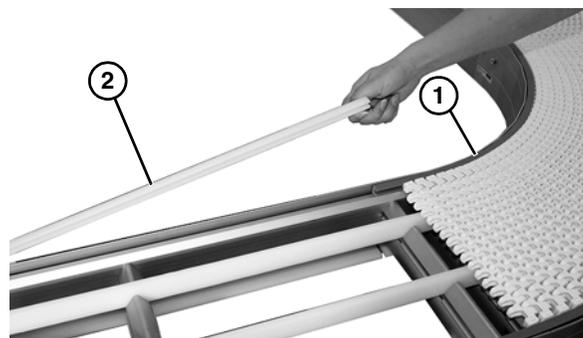

Figure 17
- On curve conveyors, install belt through wear strip (**Figure 17, item 1**) and install wear strip (**Figure 17, item 2**) on straight conveyor sections before installing and connecting belt.